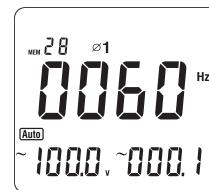

Figure 27
4. When measuring 3 phase 4 wires: (see figure 27, 28, 29)
- Press **SELECT** to choose the first phase $\varnothing 1$, see figure 27.